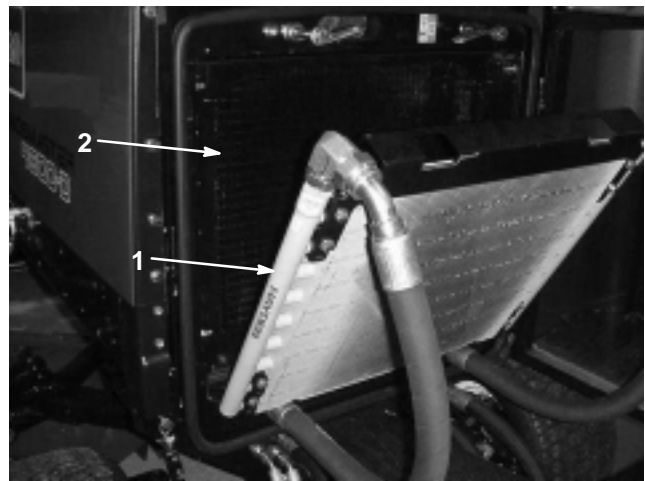

Figure 34
- Pivot the oil cooler rearward. Clean both sides of the oil cooler and radiator area (Fig. 34) thoroughly with compressed air.